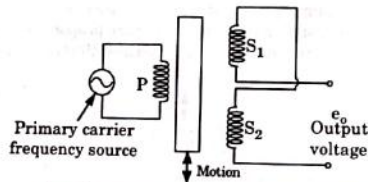

Fig. 5.13.6. LVDT (Linear motion type).
3. In a linear variable differential transducer (LVDT) type of transducer, shown in Fig. 5.13.6 a soft iron core provides the magnetic coupling between a primary coil and two secondary coils, connected in series opposition. When the core is central and both secondaries are identical, the voltages across them are equal in magnitude.